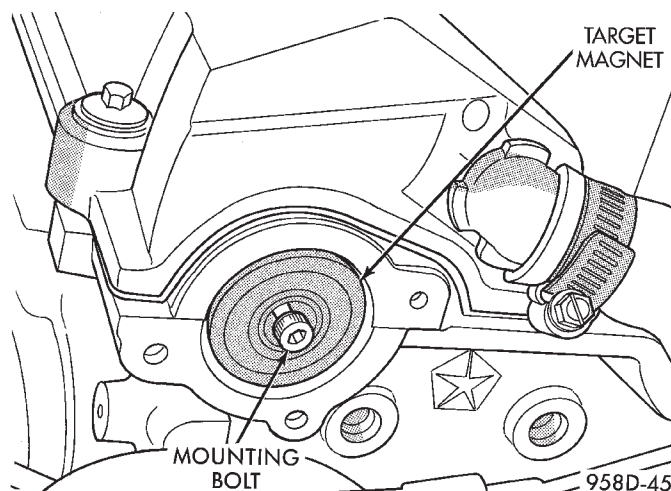

Fig. 49 Target Magnet Removal/Installation
(1) Remove filtered air tube from the throttle body and air cleaner housing.
(2) Disconnect electrical connector from camshaft position sensor.
(3) Remove camshaft position sensor mounting screws. Remove sensor.
(4) Loosen screw attaching target magnet to rear of camshaft (Fig. 49).